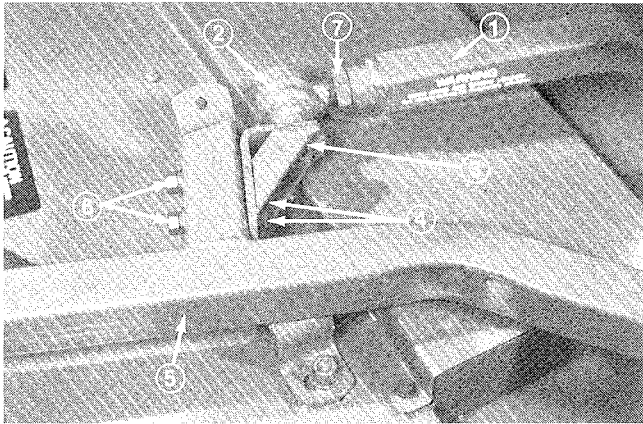

Figure 12
3. Secure ball joint mount (Fig. 12) to mount bracket with two capscrews (7/16 — 14 x 3"), flatwasher (15/32 I.D. x 59/64 in. O.D.) and nuts (7/16 — 14). Head of capscrews and flatwasher must contact ball joint mount.
4. Tighten large jam nut against front of left push arm (Fig. 12). When tightening jam nut, hold ball joint straight to permit proper oscillation during raising and lowering of cutting unit.